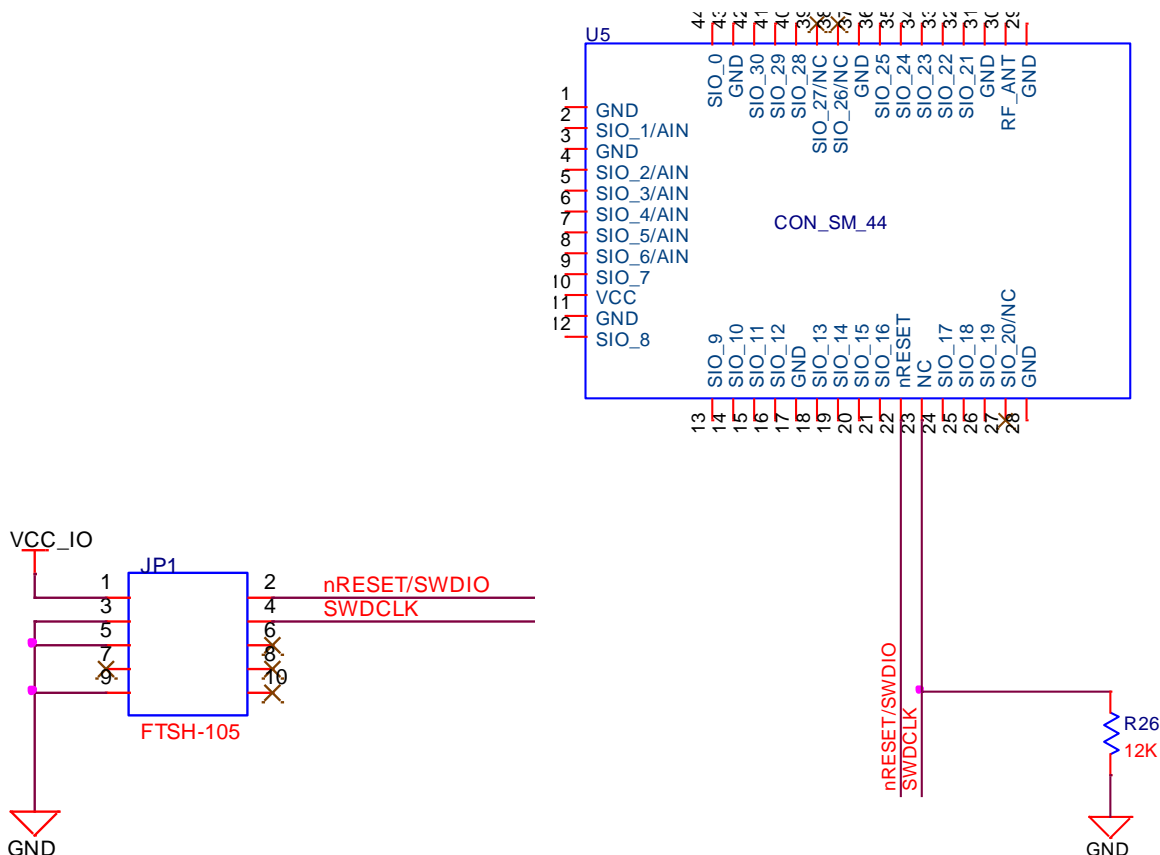

Figure 10: Wiring for JTAG connector to hidden JTAG on BL600 module
**Note 1:** Reference on BL600 development board schematic. Figure 10 shows the BL600-Sx-02 and BL600-Sx-03 development schematic wiring only for the JTAG connector and BL600 module hidden JTAG pins.